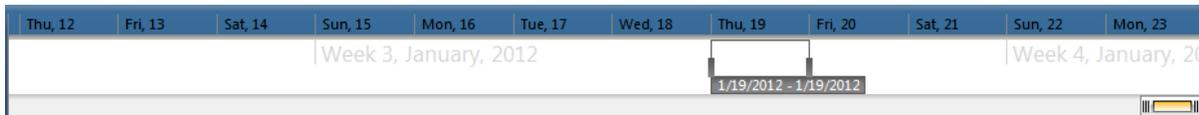

Figure 16 – Date/Time Selection
- **Specify the date range** - The time bar at the top of the screen shows a range of selectable dates. See figure 16.